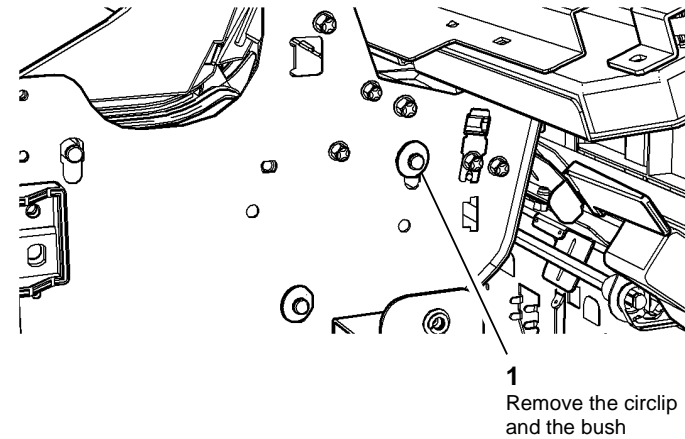

Figure 1 Circlip and bush removal
- Figure 1. Remove the circlip and bush at the outboard end of the roll.